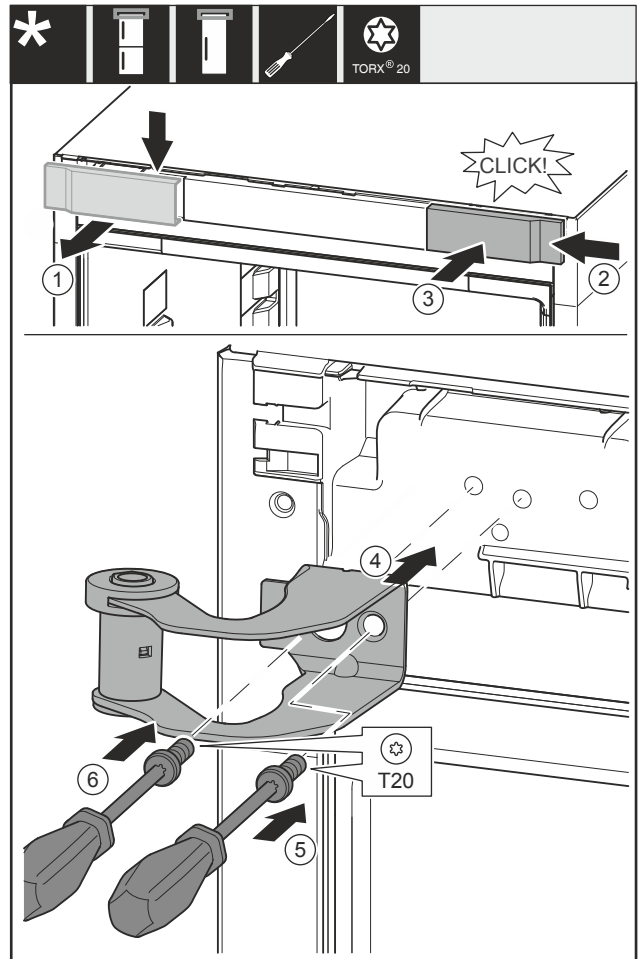

Fig. 16
- ▶ Remove the cover Fig. 16 (1) from above towards the front.
- ▶ Turn the cover Fig. 16 (2) by 180° and attach to the other side from the right.
- ▶ Engage the cover Fig. 16 (3).
- ▶ Place the top swap bearing block Fig. 16 (4).
- ▶ Screw the screw Fig. 16 (5) tight.
- ▶ Screw the screw Fig. 16 (6) tight.